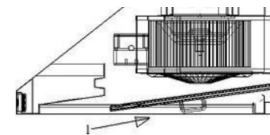

Figure 1
- Keep the tilted angle and move the baffle filter towards the back of the range hood until it reaches the backplate. (Figure 1)